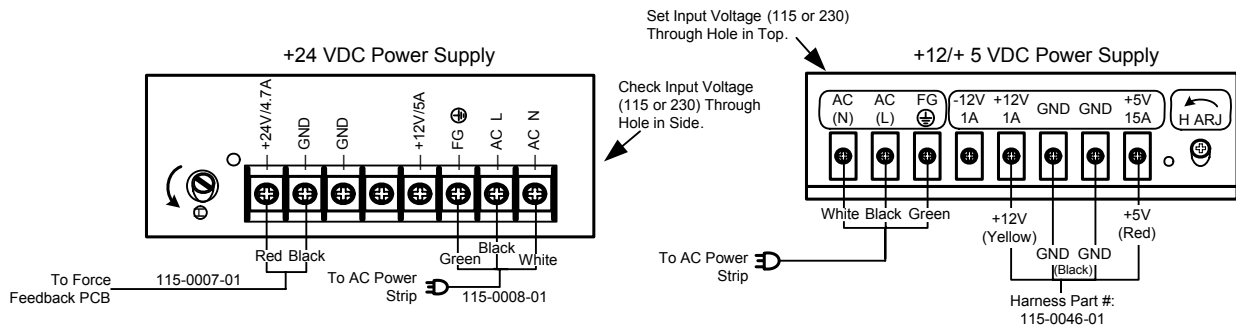

Figure 36. DC Power Supply Connections
6. Reverse the steps above to install the new power supply. Check the labels on each wire and be sure to connect them to the correct terminals. Refer to Figure 36, and the *Power Distribution Diagram* on page 54.